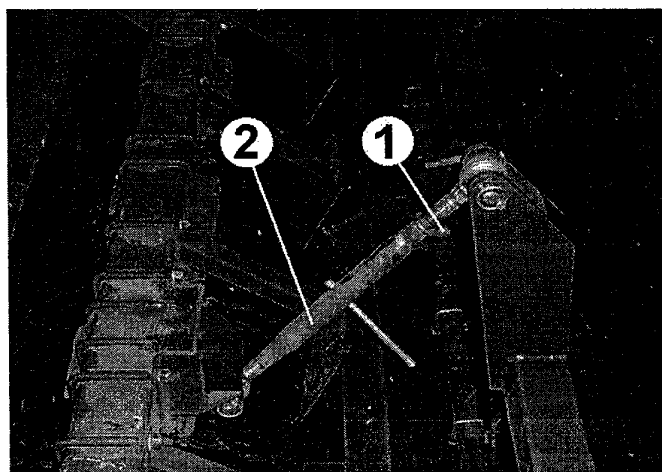

Fig 12
The crumbler/spiral packer roller is fitted to the same frame as the tines. This frame is able to float to give an even seed bed preparation. The roller can be adjusted to give a suitable position in respect to the tines. To adjust, slacken the lock tab (item 1, fig 12) and lengthen or shorten the top link by turning the sleeve (item 2, fig 12). This either pitches the roller up or down.